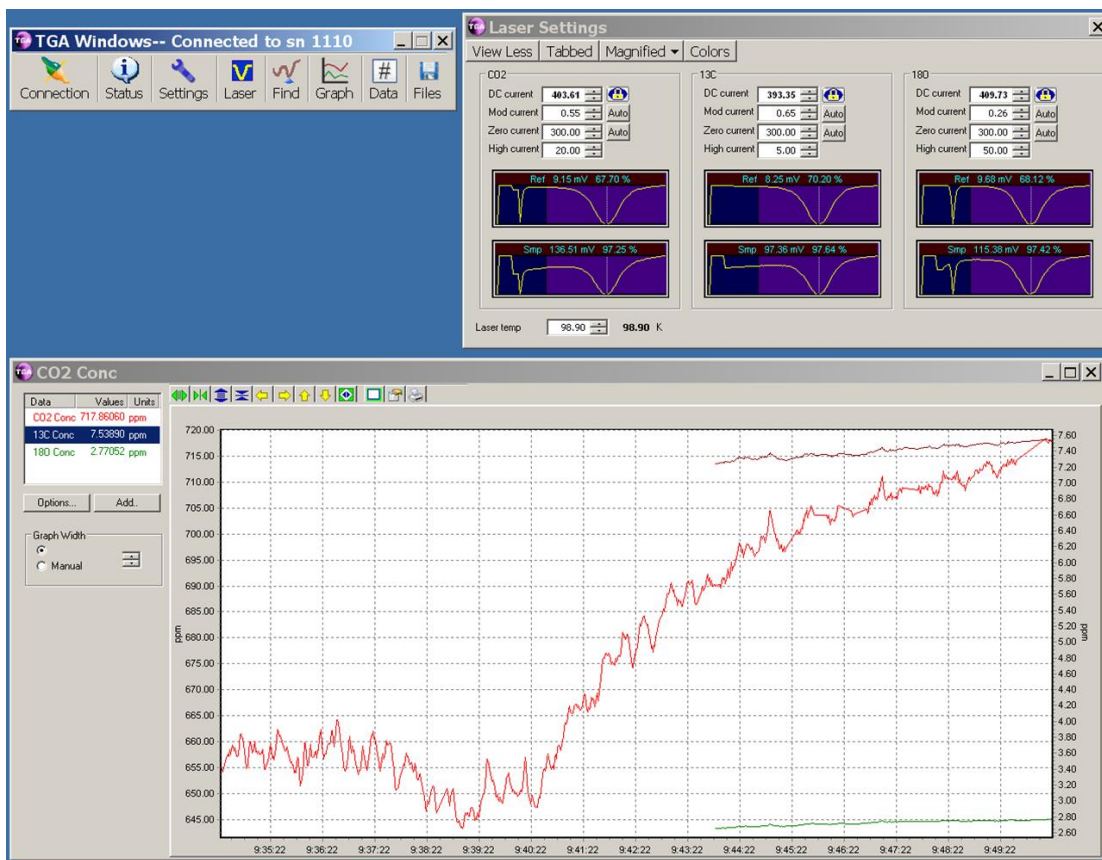

FIGURE 4-1. Screen of TGA Windows software
The fourth generation software, *TGA TEC*, is a minor update to the *TGA Windows* software that is compatible with the thermoelectrically (TE) cooled lasers used in the TGA200A. *TGA Windows* and *TGA TEC* are not mutually compatible. *TGA Windows* is used only with LN2-cooled lasers and *TGA TEC* is used only for TE-cooled lasers. A representative screen of the *TGA Windows* software is shown in FIGURE 4-1.